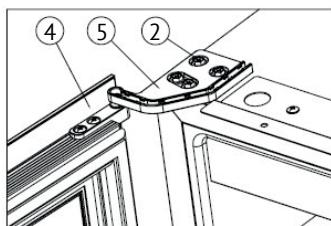

Figure 6
- ➲ Turn the door ④ 180 degrees, and insert the right lower hinge ⑤, screw tight M5*16 screws ② (Figure 6).